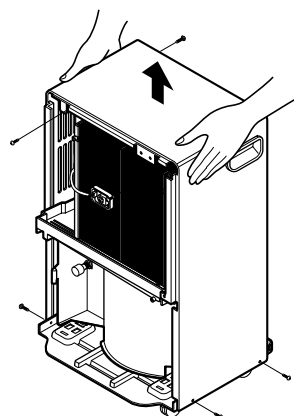

Figure 7
(See Figure 7)
4. Lift the cabinet from the base. (See Figure 7)